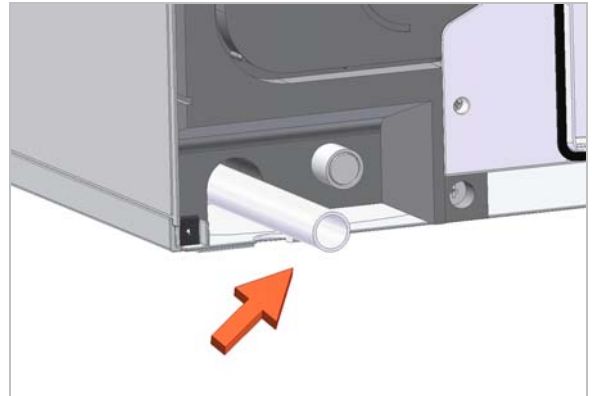

Figure 17: Fit 22 mm Pipe (Rear of Unit)
4. Supply and fit the 22 mm pipe and secure with a worm-drive clip. This pipe connects to the condensate drain system (see *Figure 17*).